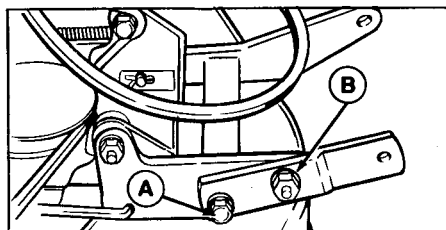

Figure 36. Mower Hitch
6. Loosen the cap screw (A, figure 36) and flange nut (B) in the right mower hitch.
8. Retighten the cap screw and flange nut. (B, figure 36). Torque cap screw (A) to 50 ft. lbs. Torque nut (B) to 65 ft. lbs.